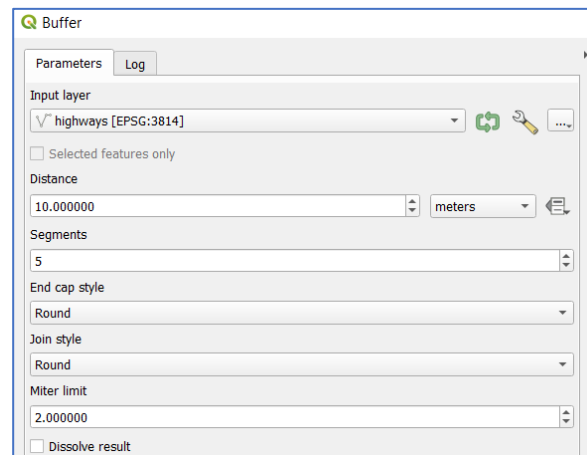

Fig. 2. The Order of arguments in the algorithm called in **Field Calculator** resembles the order in the algorithm
- The suggestion box below the cursor informs us about the order of input parameters: *geometry*, *distance*, *segments*, *cap*, *join*, and *miter_limit*. In Fig. 2, you can see the order is the same as for the regular algorithm when called from the processing toolbox.
- d. Next, we must set the remaining arguments. As seen in Fig. 2, by default, our layer uses **meters** as the *distance units*. This means that when calling the function, we need to pass the *distance* argument in meters. Let's use 100 feet for now (30.48 meters):
- e. The remaining arguments can be left as in the default settings seen in Fig. 2: